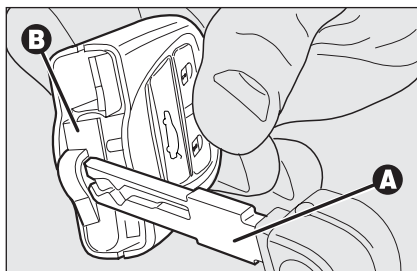

fig. 9
- ☐ remove the snap-fitted case **B-fig. 9** (red) by levering with the metal insert **A** of the electronic key in the point shown in the figure;